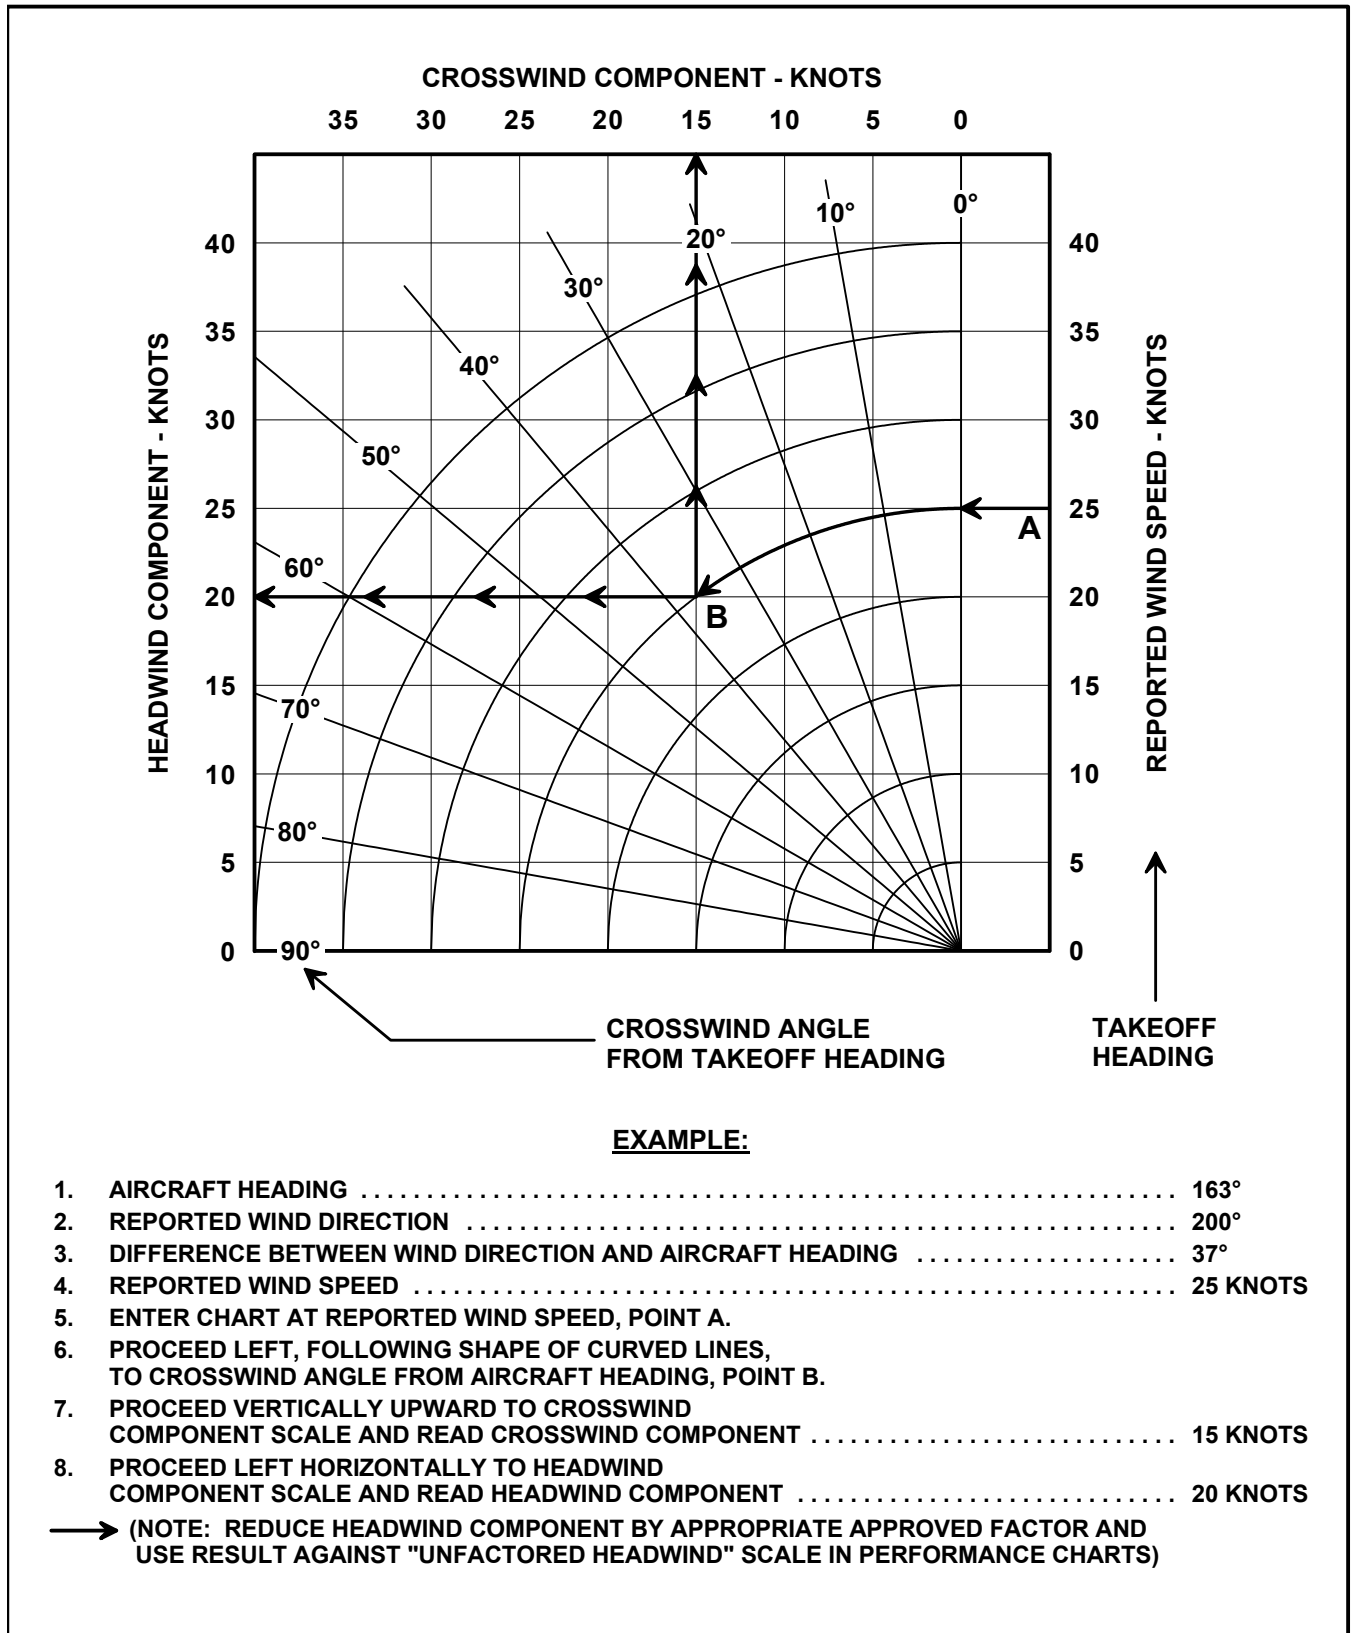

Figure 4-12. Crosswind/Headwind Component Chart
- a. Use Crosswind/Headwind Component Chart (Figure 4-12): Enter at 25 knots reported wind scale, follow 25 arc until 37°. Headwind component is 20 knots. (Factored headwind is 10 knots.)